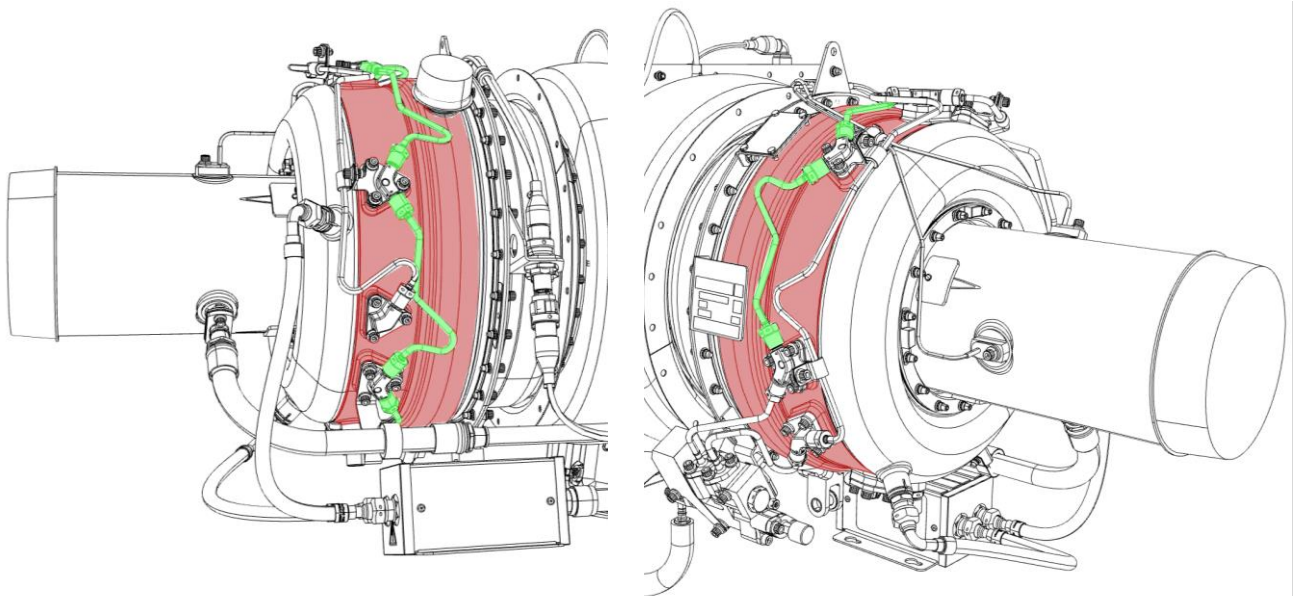

Figure 1: Identification of areas where the application of an absorbent is recommended
3. Apply an absorbent (e.g. talcum) over the main burners manifold and the combustion casing (see colored areas in Figure 1).
7. Inspect each pipe of the main burners manifold (in green on Figure 1) for fuel leaks.